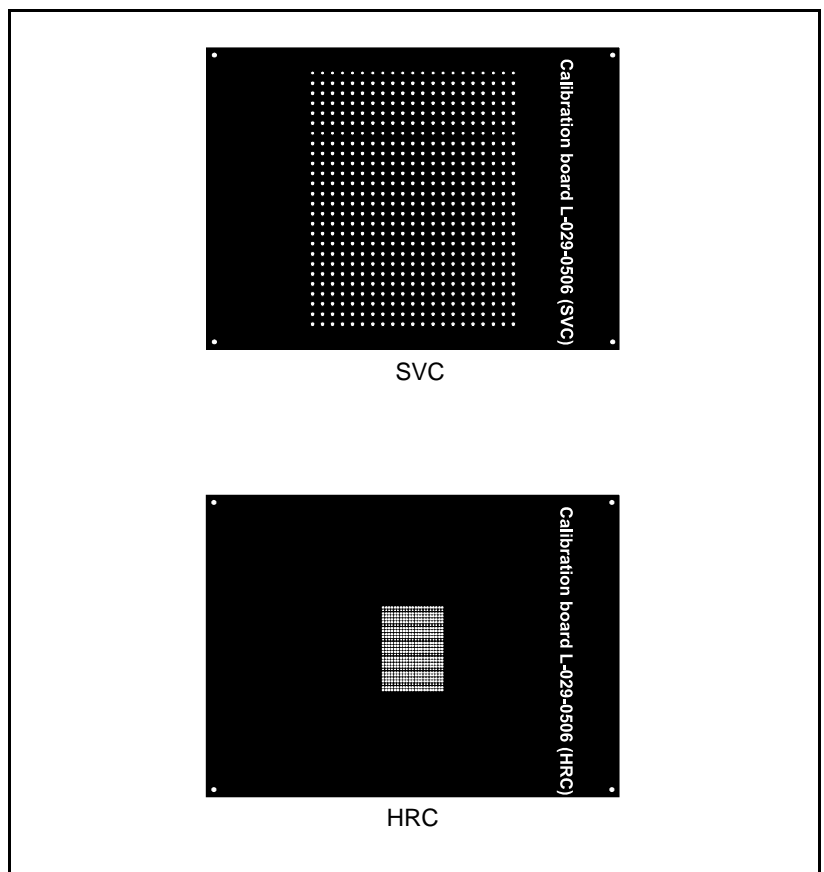

Figure 4-13. Black calibration board.
- Black calibration board, see Figure 4-13.
One side of the calibration board in Figure 4-13 is used for calibrating the SVC (Standard Vision Camera) and the opposite side of the calibration board is used for calibrating the HRC (High Resolution camera) in a dual vision system.
- When prompted, place the rubber cloth and the calibration plate on the area calibration background (if not already done, insert the area calibration background as described in step 2 on page 4-10) the rubber cloth will keep the calibration plate from sliding on the area calibration background. Depending on the camera that is currently calibrated, make sure that the correct calibration pattern is exposed to the camera (see Figure 4-13).